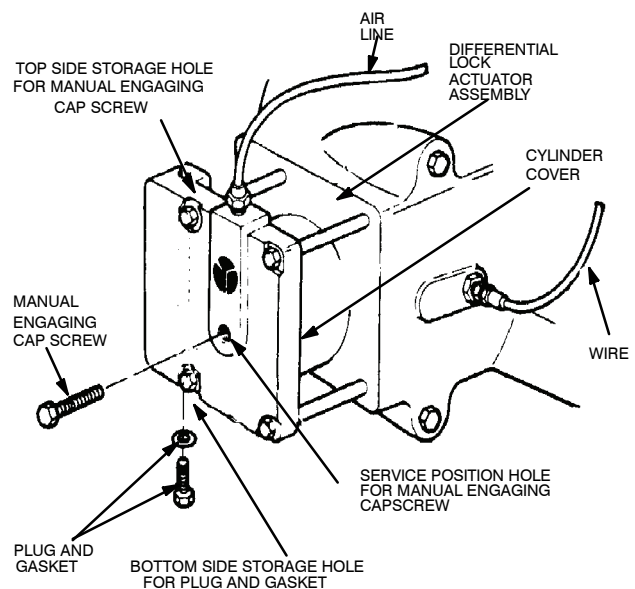

Figure 7. Manually Locking the Differential.
**2.2 Manual Engaging Method.** If an auxiliary air supply is not available or if the differential carrier is to be stored for later use, use this manual engaging method. See Figure 7.